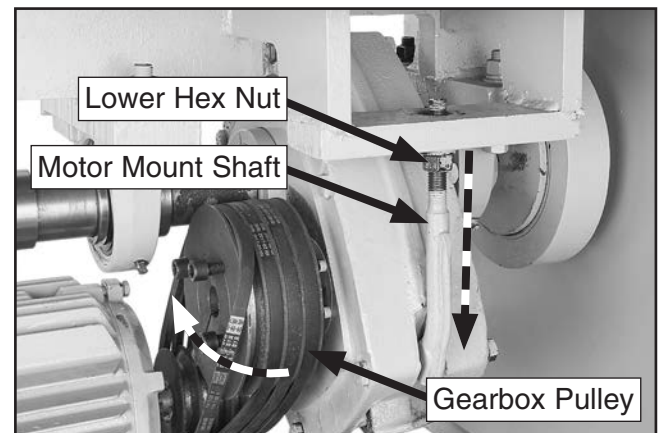

Figure 72. V-belt removal from gearbox pulley.
4. Remove upper hex nut and spherical washer at top of motor mount shaft (see **Figure 72**). Tighten lower hex nut to shift motor down for clearance to roll V-belts off gearbox pulley.